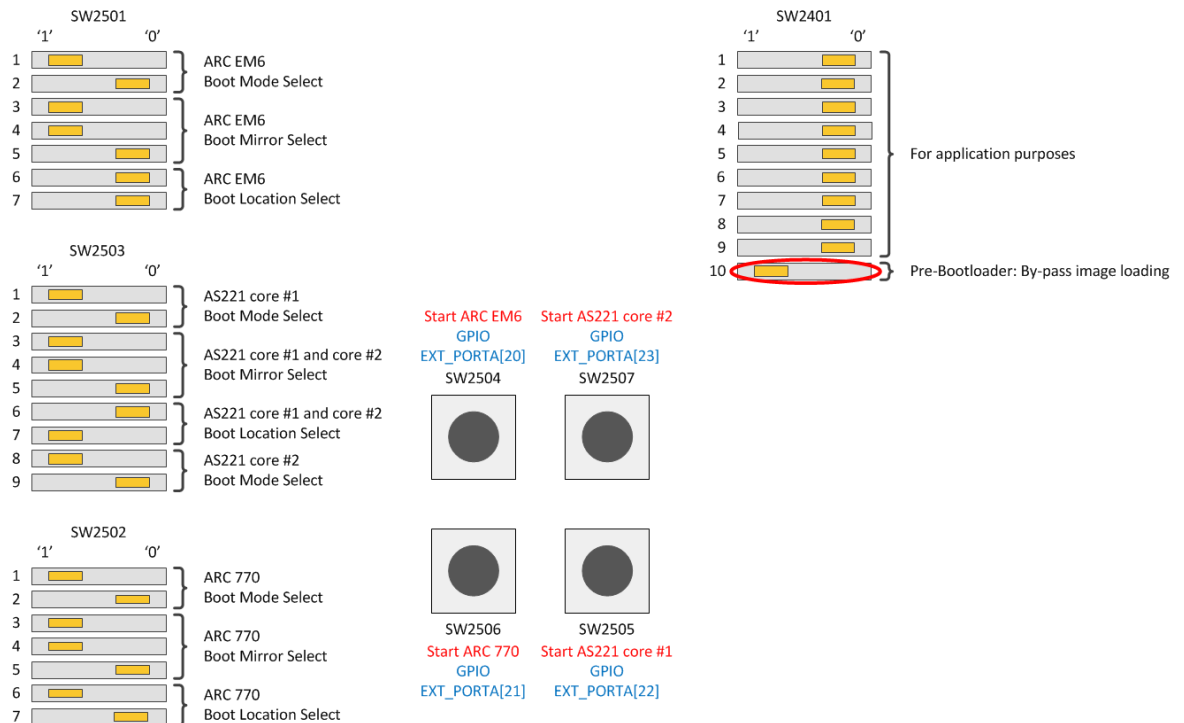

Figure 48 Settings of the DIP switches on the ARC SDP Mainboard for using the debugger
2. Set the switches on the ARC SDP Mainboard as shown in Figure 48. The change compared to the default settings is marked by a red ellipse.